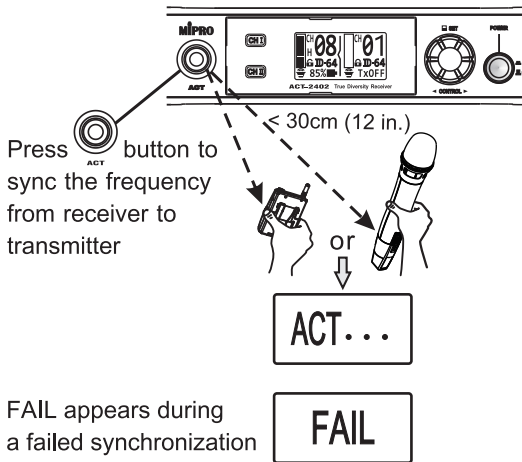

Fig. 29
- (A) Press the ACT sync button on the receiver, ACT... icon ❶ appears.
Within 10 seconds, align the transmitter infrared (IR) port and receiver's ACT button with each other and within 30 cm. Fig. 29
- (B) If receiver display shows FAIL, it indicated the sync was done unsuccessfully. Try again when sync fails.
- (C) Change is saved automatically, even when power is turned off.